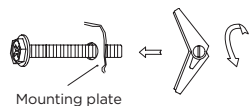

Figure 19
- Insert toggle bolts through the mounting plate at required locations and add the spring loaded toggles. See Figure 19. Ensure you leave space at least the thickness of the wall between the mounting plate and the end of the toggle nut, (in closed position). If you do not leave this space, the toggle nut will not open on the other side of the wall.